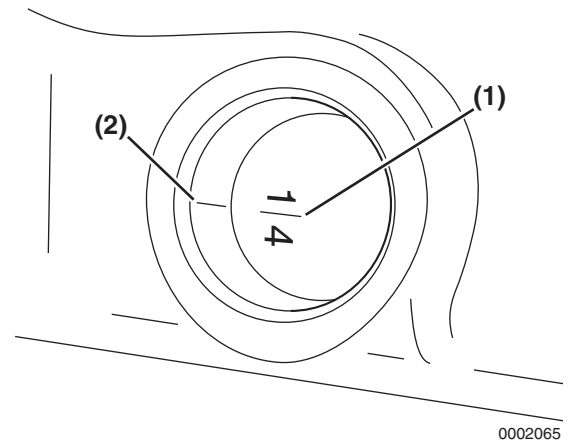

Figure 7-40
8. Highlight the timing reference mark (**Figure 7-40, (2)**) on the flywheel housing or engine back plate (**Figure 7-41, (2)**). Highlight the TDC (Top Dead Center) mark (**Figure 7-40, (1)**) on the flywheel.